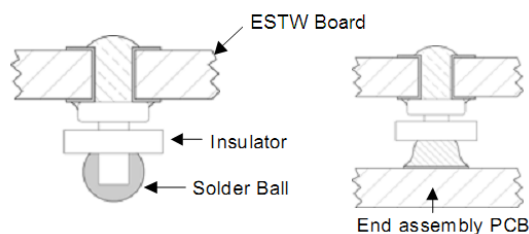

Figure 19. Column Pin Connector Before and After Reflow Soldering .
The surface mountable modules in the ESTW family use our newest SMT technology called “Column Pin” (CP) connectors. Figure 19 shows the new CP connector before and after reflow soldering onto the end-board assembly. The CP is constructed from a solid copper pin with an integral solder ball attached, which is composed of tin/lead (Sn/Pb) solder for non-Z codes, or Sn/Ag₃/Cu (SAC) solder for –Z codes.